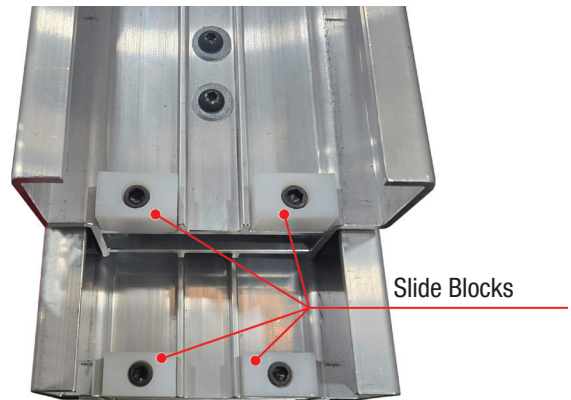

Figure 4-17: Slide Blocks
21. Move the top mast section up to expose the bottom of the mast beneath. Using 3/8" hex wrench and 9/16" wrench, re-install the two slide blocks (removed in step 10, see Figure 4-17) to the bottom of the mast assembly beneath. Do not overtighten the bolts and nuts as this may deform the slide block and cause unnecessary friction. Torque to 10 ft-lbs.